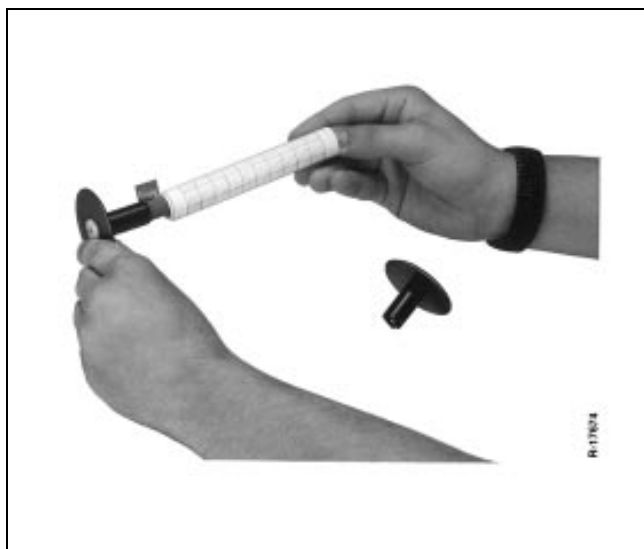

Fig. 12 Removing chart paper from the take-up reel
2. Grip paper as shown in Fig. 12 and remove from the axle.